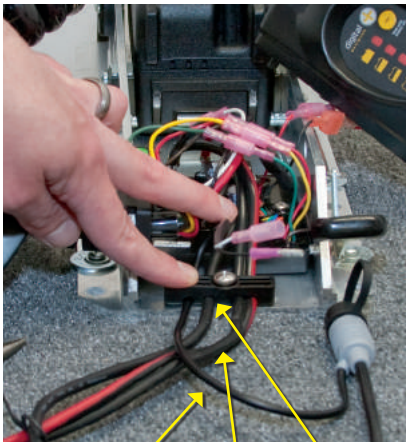

FIGURE 30
17. Tighten the cable strain relief as shown. The i-Pilot Link controller steering cable should slide freely through the strain relief when installed properly. (Figures 30 and 31)